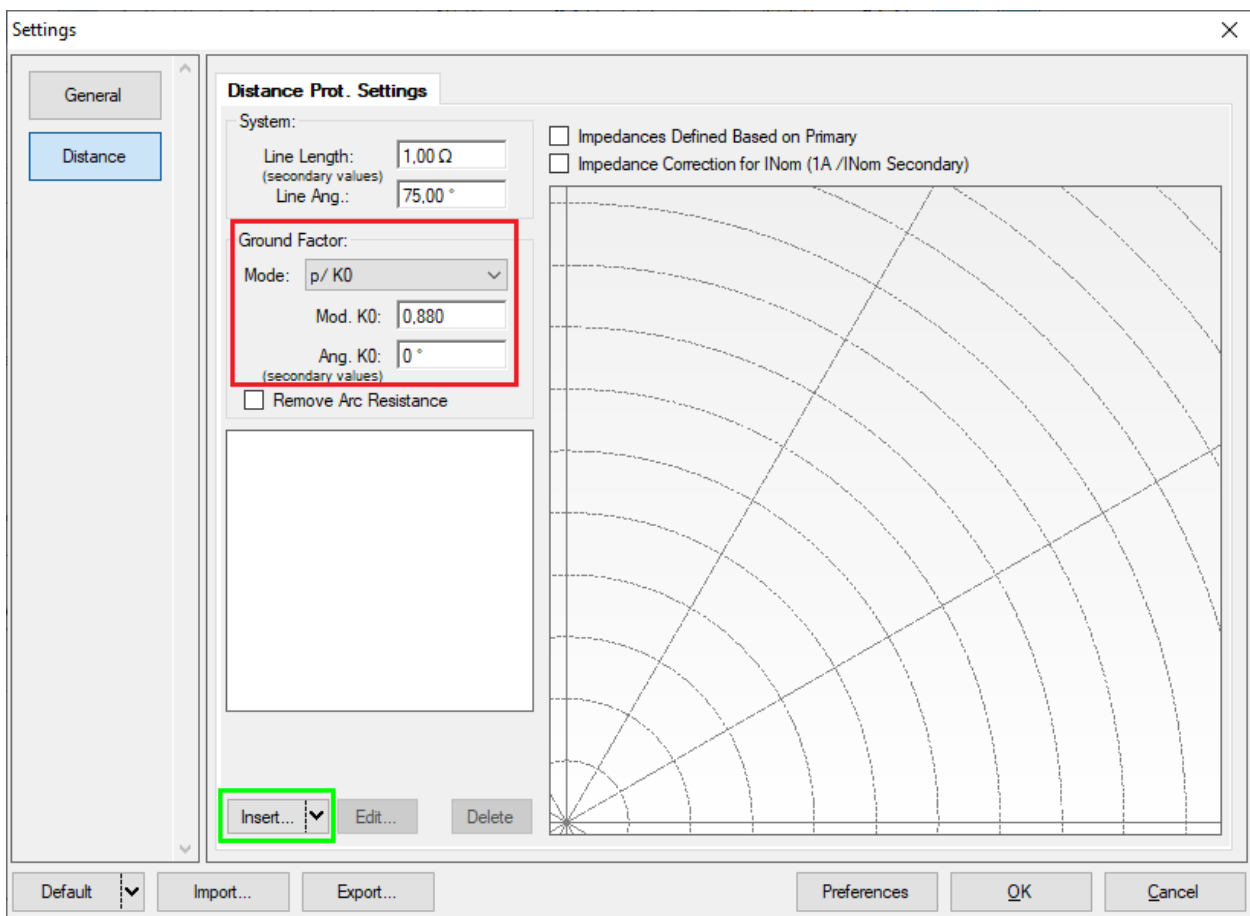

Figure 29
The first FT zone to be entered will be zone-5 (LE). Change the name of zone 5 to “Zn01_LE”. Click on the “Insert” field highlighted in green in the Figure 29. In the settings screen, first select the relay mask “SIEMENS 7SA6/7SA8/7SL8 - Quad.”.